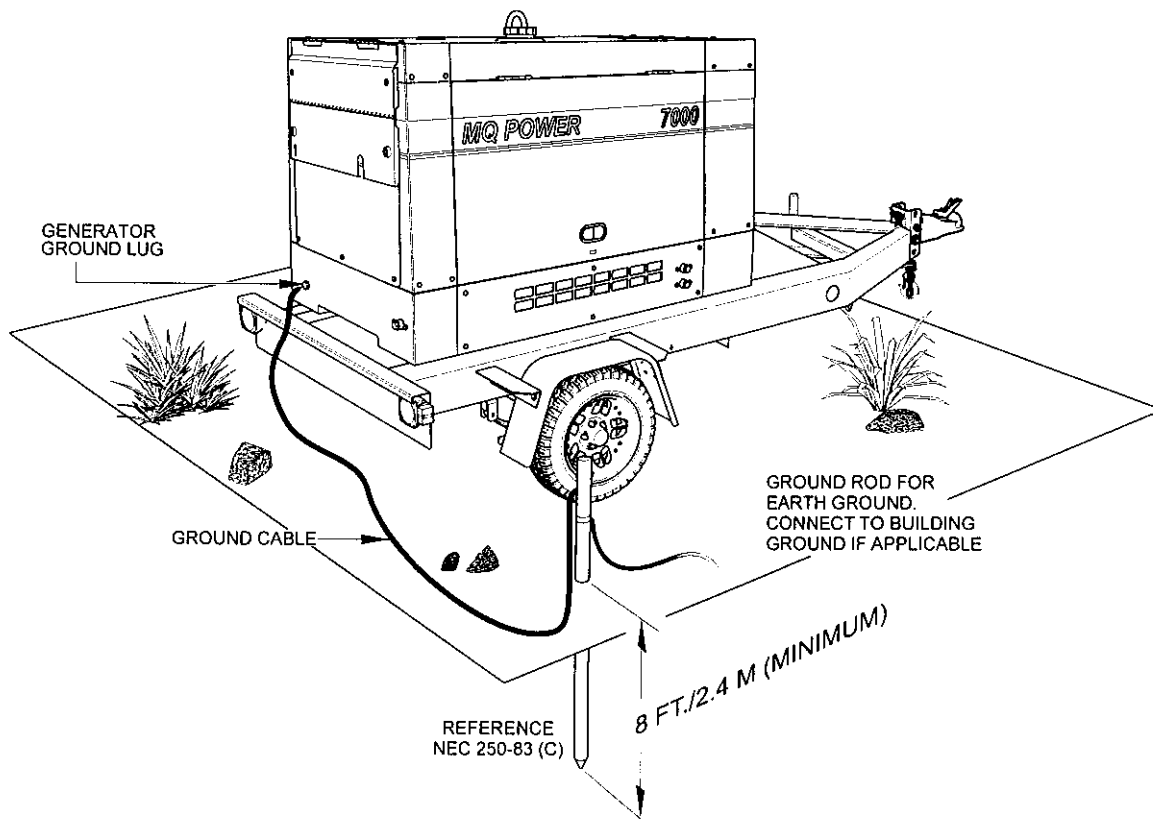

Figure 2. Generator Grounding
At the generator, connect the terminal of the ground cable between the lock washer and the nut (Figure 2) and tighten the nut fully. Connect the other end of the ground cable to a suitable earth ground (ground rod)
2. When grounding the generator (Figure 2) connect the ground cable between the lock washer and the nut on the generator and tighten the nut fully. Connect the other end of the ground cable to earth ground.